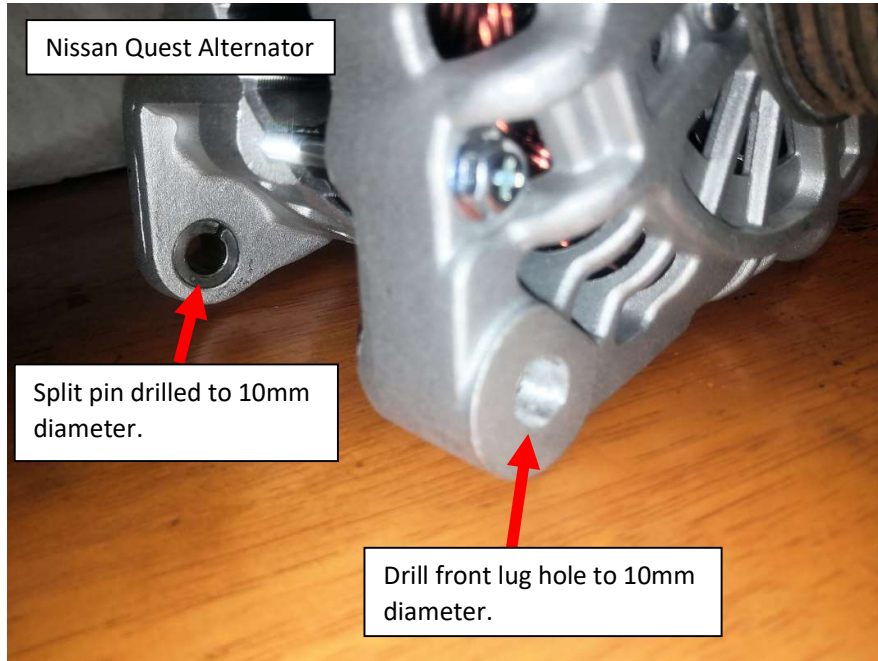

Figure 2 – Drill Split Pin and Front Lug Hole
4. Drill the split pin on the Nissan Quest alternator to 10mm (figure 2).
5. Drill the front alternator mounting hole to 10mm diameter (figure 2).